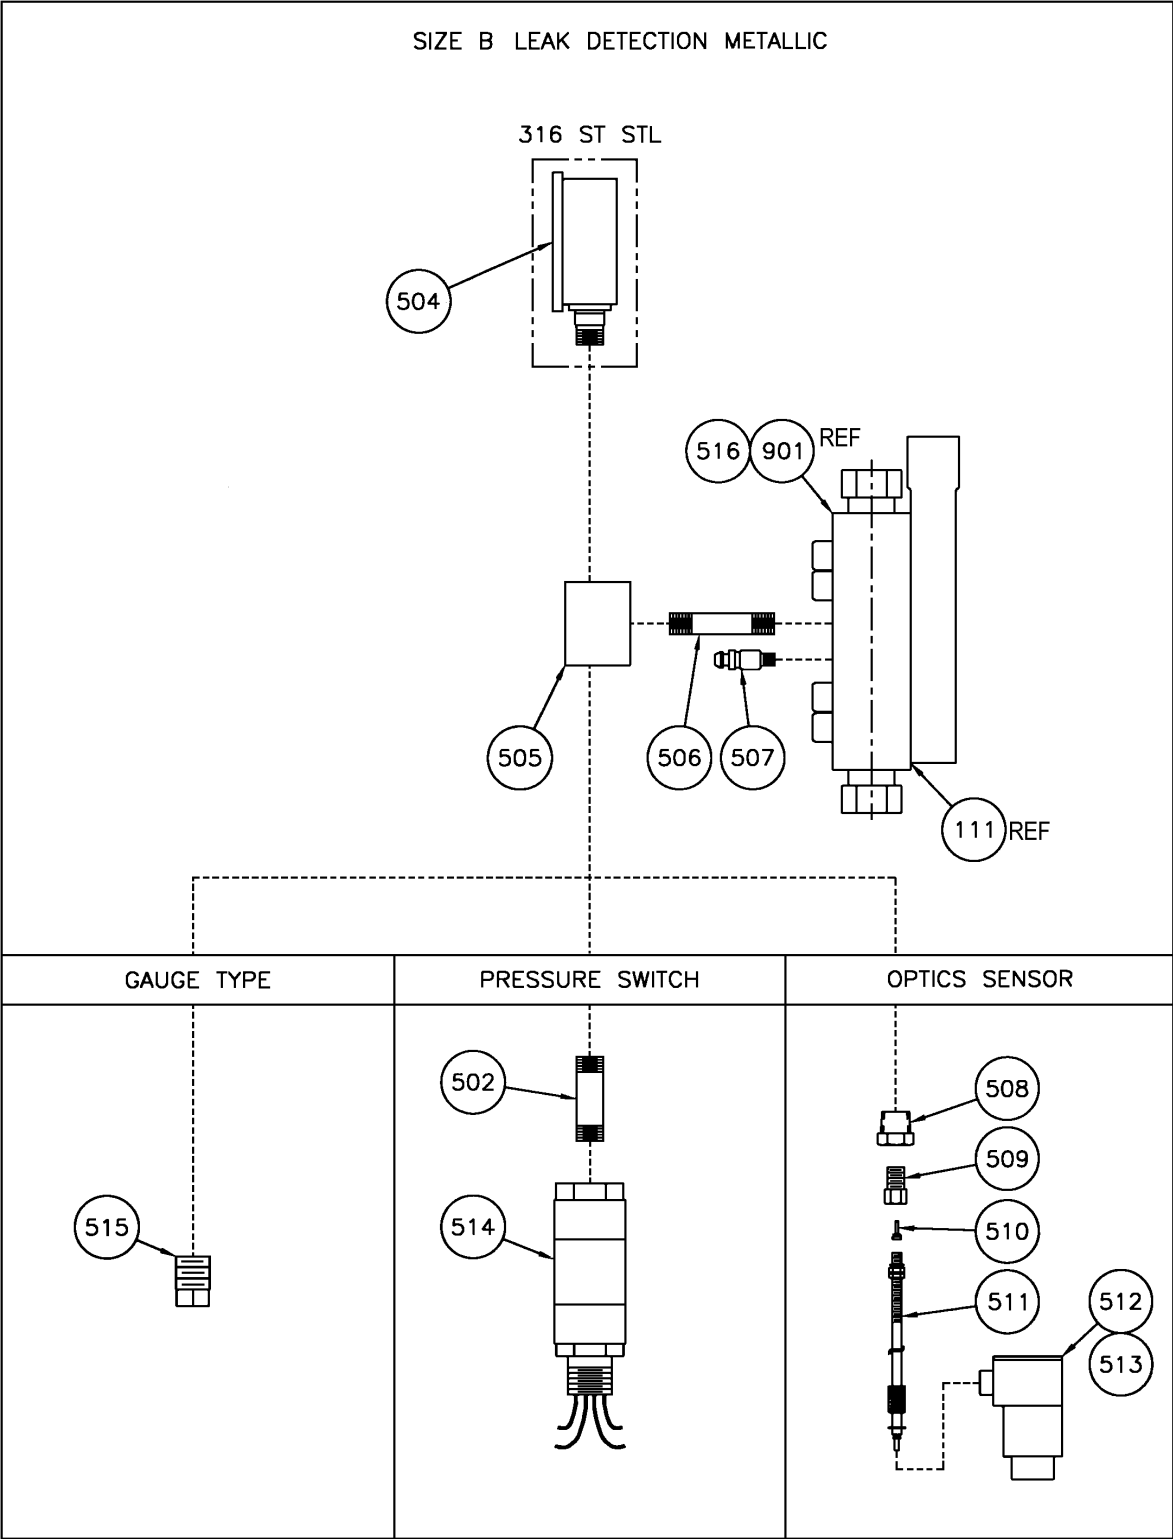

Figure 34. Metallic Leak Detection, Size B.
6.14 METALLIC LEAK DETECTION, SIZE B (316SS, ALLOY 20 & HAST C) (FIGURE 34)